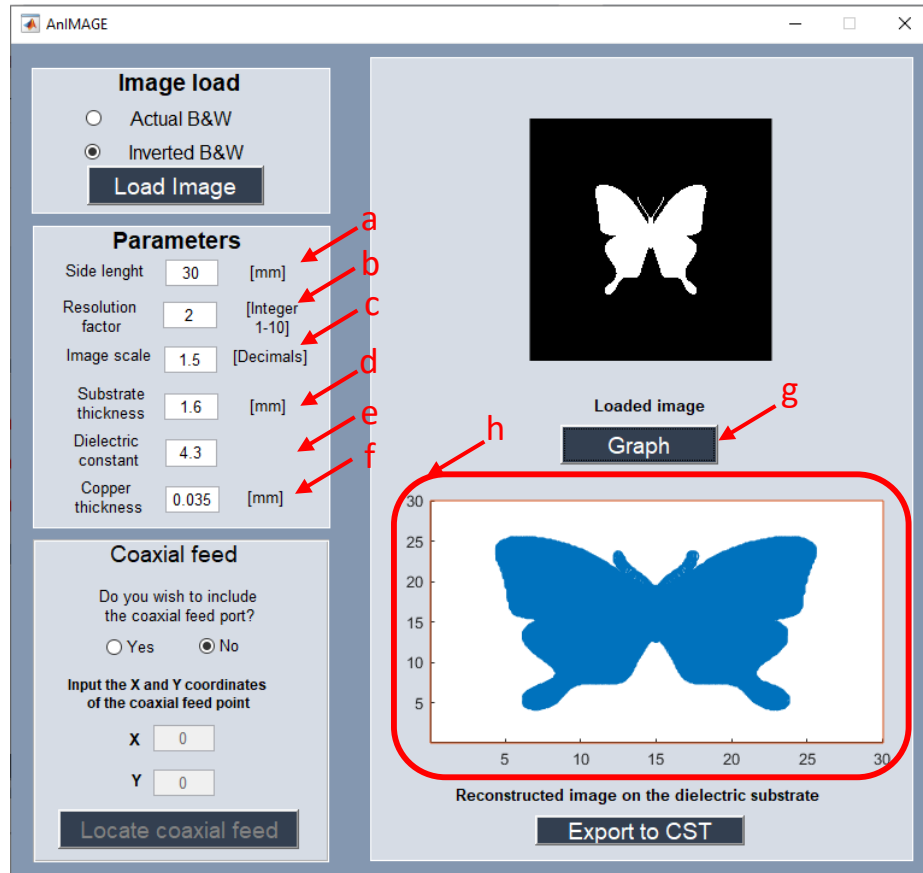

Figure 7. Input of substrate parameters and showing of the reconstructed image based on the entered parameters.
- Side length:** The dimension of the substrate in millimeters must be selected here. In this instance, the two dimensions of the substrate (length and width) will be the same to prevent deformation of the previously loaded image. As shown in Figure 7, for instance, we can input 30 mm in this example.
- Image Scale:** This parameter allows adjusting the size of the image so that it is proportional to the substrate. In this example, we will use a scaling factor of 1.5 as illustrated in Figure 7.